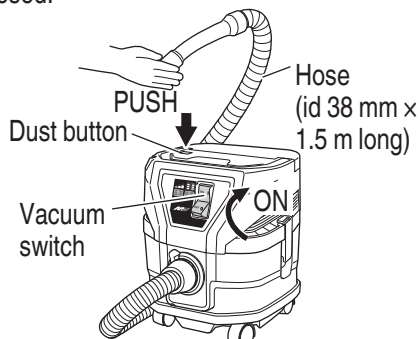

Fig. 22
- (1) Pull out the zoom pipe on the tip of the hose.
- (2) Block off the tip of the hose with your hand and turn the power switch ON. Next, press the dust button on the top of the head for approximately one second and release the button. Repeat three times and the suction power should recover. (see Fig. 22)